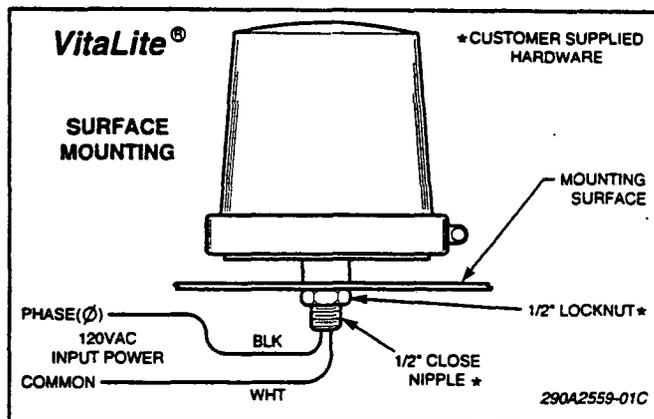

Figure 1.
The Model 121S can be mounted on a flat surface or a 1/2-inch pipe, as shown in figures 1 and 2.
C. *Electrical Connections (See figure 1).*